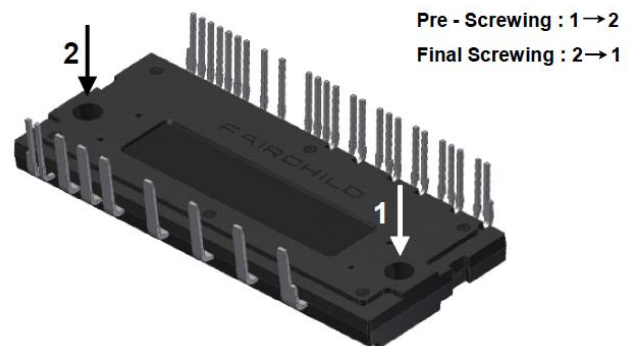

Figure 1. Mounting Screws Fastening Order:
When installing a module to a heat sink, excessive uneven fastening force might apply stress to the inside of chips, which leads to damage or degradation of the device. Figure 1 shows recommended fastening order.
- Avoid tightening only one side at once. Figure 1 shows the recommended torque order for mounting screws. Uneven mounting can damage the ceramic substrate. The pre-screwing torque needs to be set as 20~30% of the maximum torque rating.